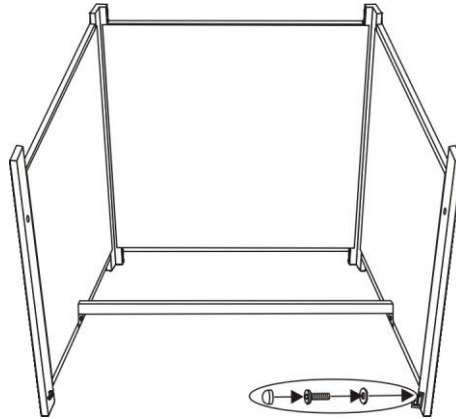

Figure 4
4. Attach the "L" connector to right side panel by using a 1/4"x15 mm bolt and washer as shown in Fig. 4. Guide bolt through hole in "L" connector, into pre-drilled hole in the right side panel. **Do not over tighten.**